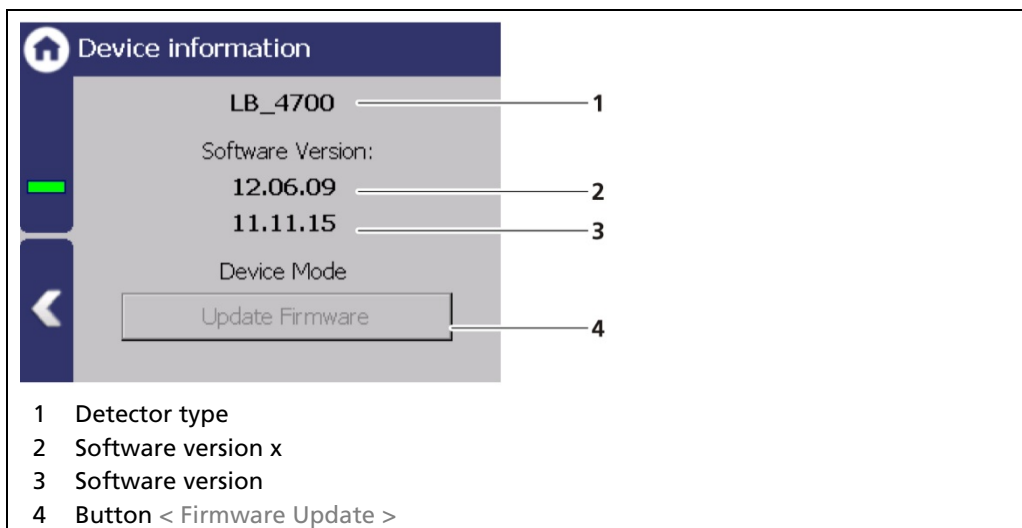

Fig. 68 Device information
This window shows you the type of detector (Fig. 68, item 1) as well as an overview of the software version (Fig. 68, item 2, item 3) of the detector.
3. The USB storage device is recognised by the system after a few seconds and the < Firmware Update > (Fig. 68, item 4) button can be clicked.
4. Click on the button < Firmware Update > (Fig. 68, item 4).